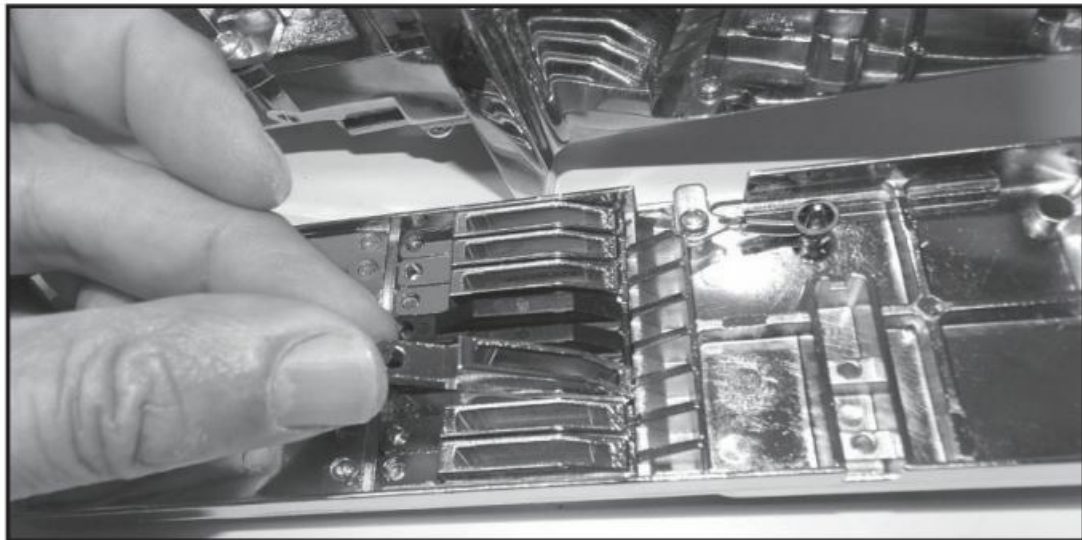

FIGURE 8
8. Lift and remove functional or blank inserts and exchange them as needed to obtain vend price. See Figure 8.